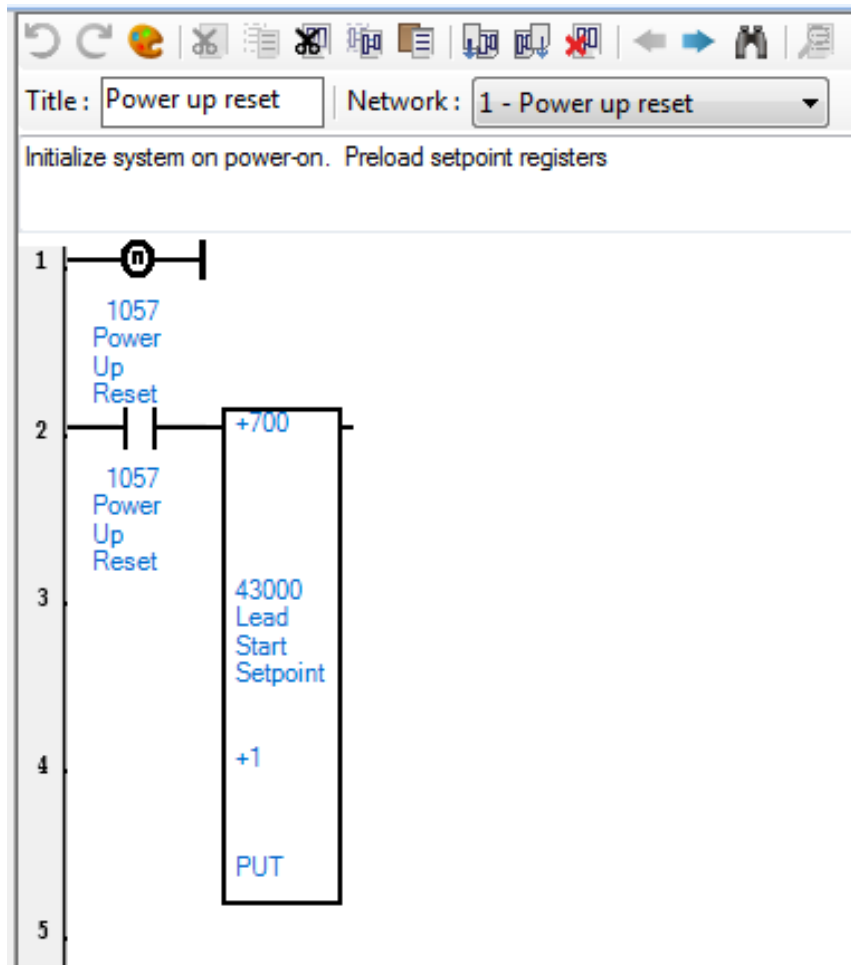

Figure 41: Insert / Edit PUT Function
- **Configure** the function as shown in Figure 41: Insert / Edit PUT Function.